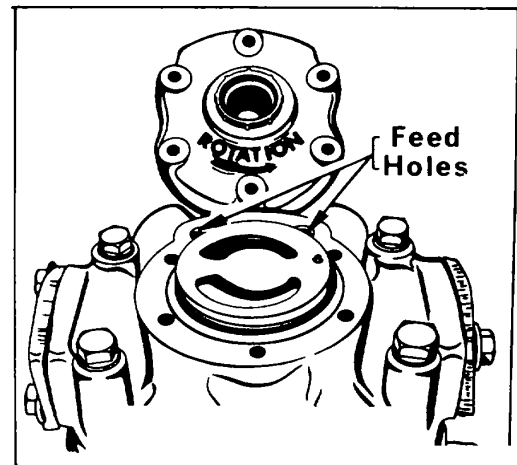

Figure 161.
- a. Remove six hex bolts (11), lock washers (6), and charge pump cover (10).
- b. Peel shim(s) (43) from pump cover and discard.
- c. Remove charge pump upper valve plate (45).
- d. Without removing any additional parts, rotate the charge pump assembly 180° utilizing the roll pin in the charge pump spacer assembly (48). Often, a moderate resistance is met when rotating the charge pump assembly. This is normal and should be of no concern.
- e. On single ported charge pumps only, invert charge pump upper valve plate (45) and place it on the charge pump assembly so that the original upper face is now in a downward position and the open kidney remains adjacent to the pump cover feed holes. See Fig. 161.